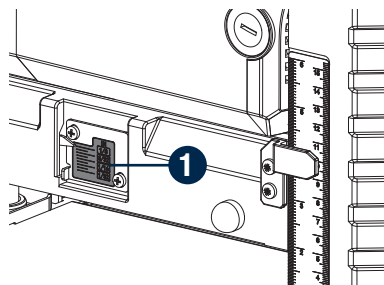

Fig. 11
- Turn switch off (0).
**MATERIAL REMOVAL DEPTH SCALE (Fig. 11)**